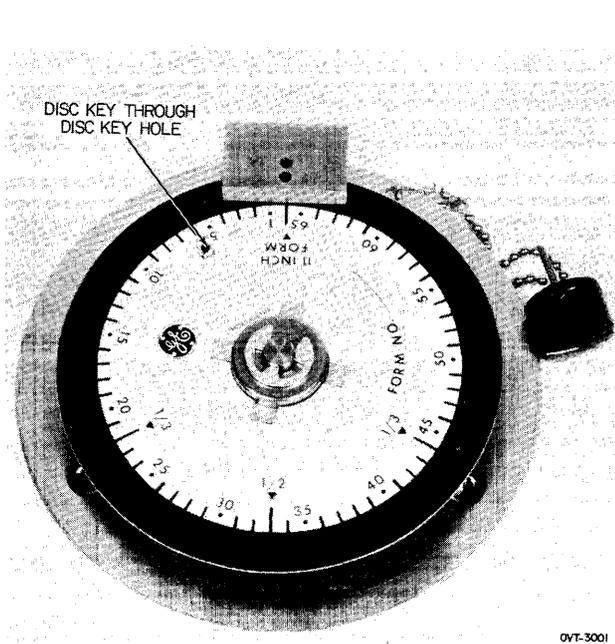

Figure 3-21. Programmable Disc on Disc Punch.
1. Mount disc on punch so that disc-key protrudes through the disc key hole (see Figure 3-21).